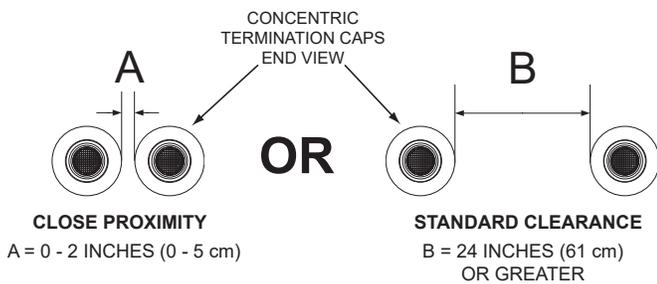
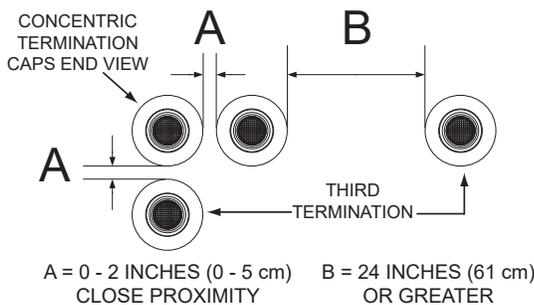
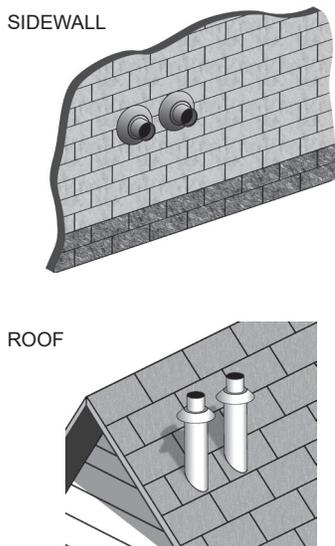

Figure 34. Two Concentric Terminations
Figure 35. Three Concentric Terminations
Figure 39. Two Concentric Terminations (Side-Wall And Roof)
When installing multiple concentric terminations through a roof or through a sidewall the clearances shown in **Figure 34** must be maintained.
1. The clearance between multiple termination caps must be zero inches (touching) to a maximum of two inches (5 cm), dimension A - **Figure 34**, when installing concentric terminations in close proximity. See **Figure 39** (page 43).
2. The clearance between multiple termination caps must be increased to a minimum of 24 inches (61 cm), dimension B - **Figure 34**, when installation in close proximity (above) is not possible. This is the standard clearance.
1. When installing three concentric terminations through a roof or through a sidewall the third termination may be installed in close proximity as indicated by dimension A in **Figure 35**.
2. If close proximity installation of the third termination is not possible the third termination may be installed as indicated by dimension B in **Figure 35**.
Two concentric terminations may be installed in close proximity as shown in *Figure 39* or with standard clearances when this arrangement is not possible. See *Figure 34* (page 42) for detailed information on clearances. See *Figure 35* (page 42) when installing three concentric terminations.